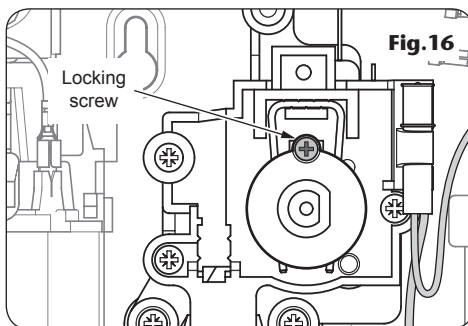

Fig.16
**Note:** A temporary factory fitted locking screw is fitted to the power selector spindle (**fig.16**). This is to make sure the spindle is held in Cold while the commissioning procedure is carried out.
DO NOT remove the locking screw fitted to the power selector spindle (**fig.16**) – it can be removed only when the commissioning procedure has been completed.
Remove the locking screw from the power selector spindle (**fig.16**) and store for future use. Make sure the selector spindle is left in the same attitude.